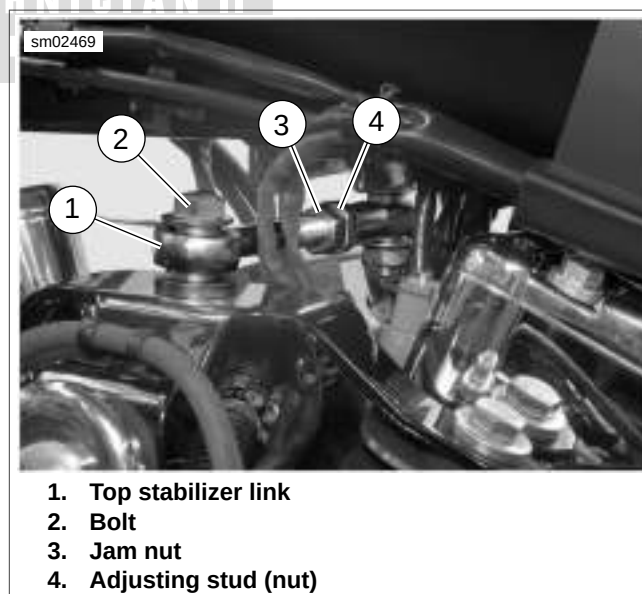

Figure 2-61. Top Stabilizer
8. See Figure 2-61. Remove the bolt (2) which attaches the top stabilizer link (1) to the engine mounting bracket.